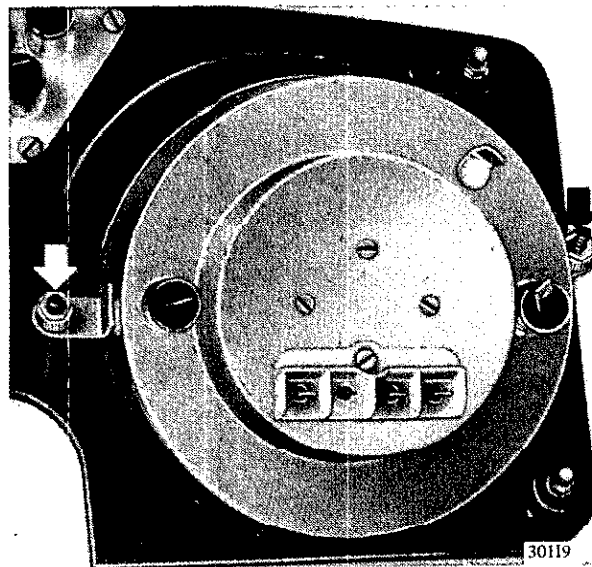

Figure 11-9 Rear View of Tachometer
2. Remove speedometer. See Figure 11-9 1.
3. Disconnect electrical wires. See Figure 11-9.